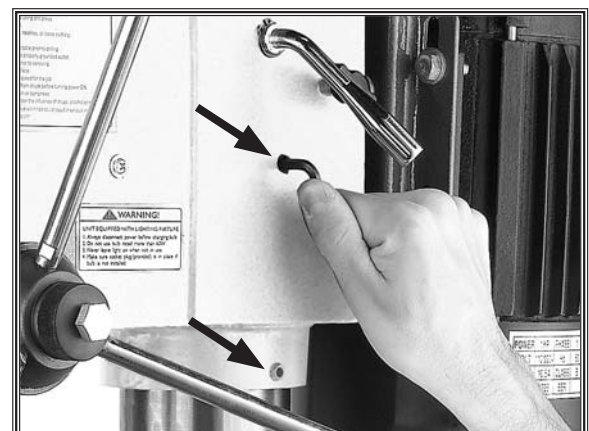

Figure 16. Securing the headstock.
8. Tighten the two headstock setscrews to the column, as shown in **Figure 16**.